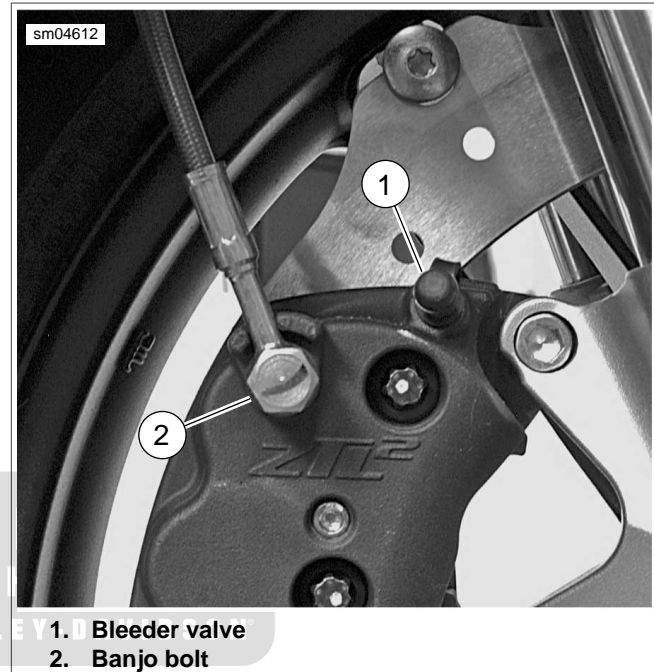

Figure 2-43. Bleeder Valve and Banjo Bolt
- a. See Figure 2-43. Remove the bleeder valve cap and install a length of plastic tubing over valve (1). Place the free end in the collection pan.